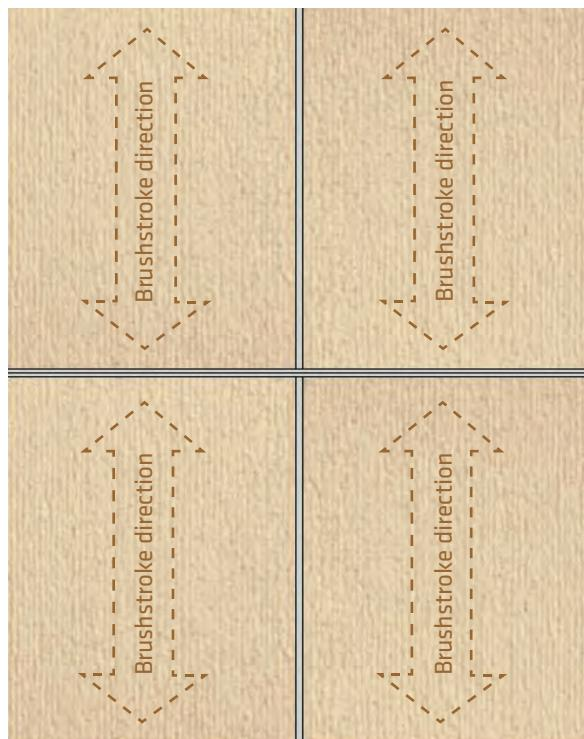

Figure 3C
- See photos with directional arrows to familiarize yourself with this feature before beginning installation. \(Figure 3C\)